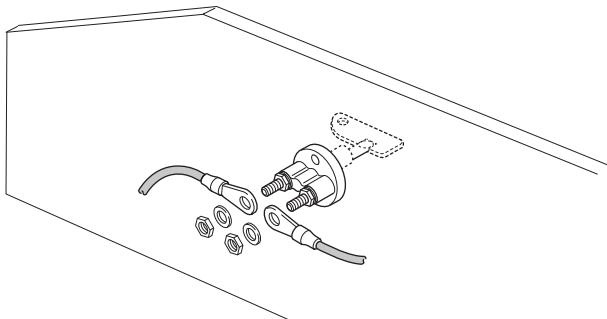
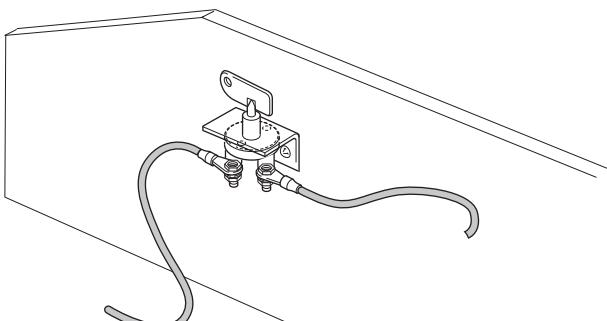

Fig. 46
Fig. 47
- Select a suitable mounting option for the battery cut-off switch (see installation examples Fig. 46, Fig. 47).